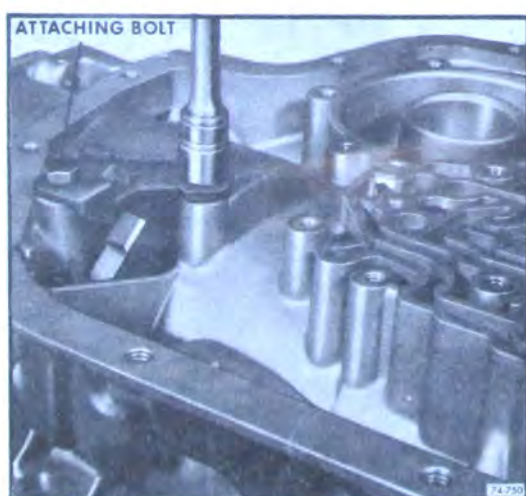

Figure 74-750
5. Install the parking lock bracket, guides over parking pawl, using two attaching bolts torque to 15-20 lb. ft. See Figure 74-750.